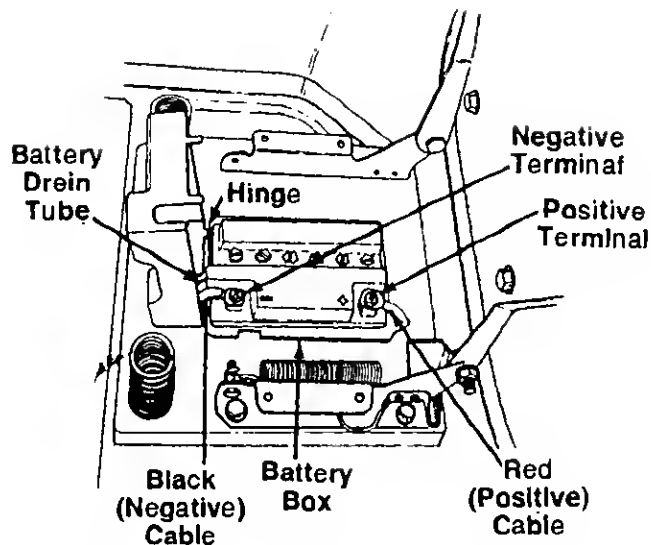

FIGURE 3.
- d. Snap the battery box in place so the retaining edges on the box are beneath the fender. Make certain the battery cables are routed up along each side of the box. See figure 3.
2. Place the battery inside the battery box so that the positive terminal is toward the right side of the unit. See figure 3. Route the battery drain tube down beside the battery box.
3. Slide the hex nut (provided with battery hardware) into the positive (+) terminal. Place the positive (heavy red wire) cable on the positive terminal. Secure with bolt provided. See figure 3.